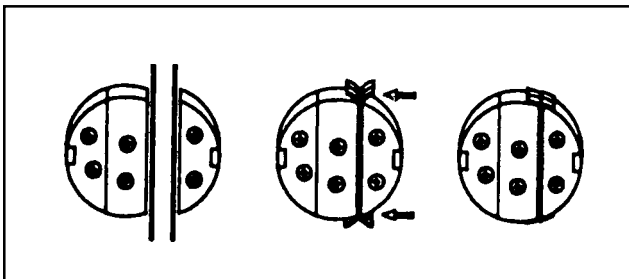

FIGURE 16 – TAPE FOLDING BACK
8.07 While tightening, the excess LOCK-TAPE Sealant extending from the End Plate section will fold back. When the LOCK-TAPE Sealant stops moving (folds back), the bolts are sufficiently tight. (Figure 16)